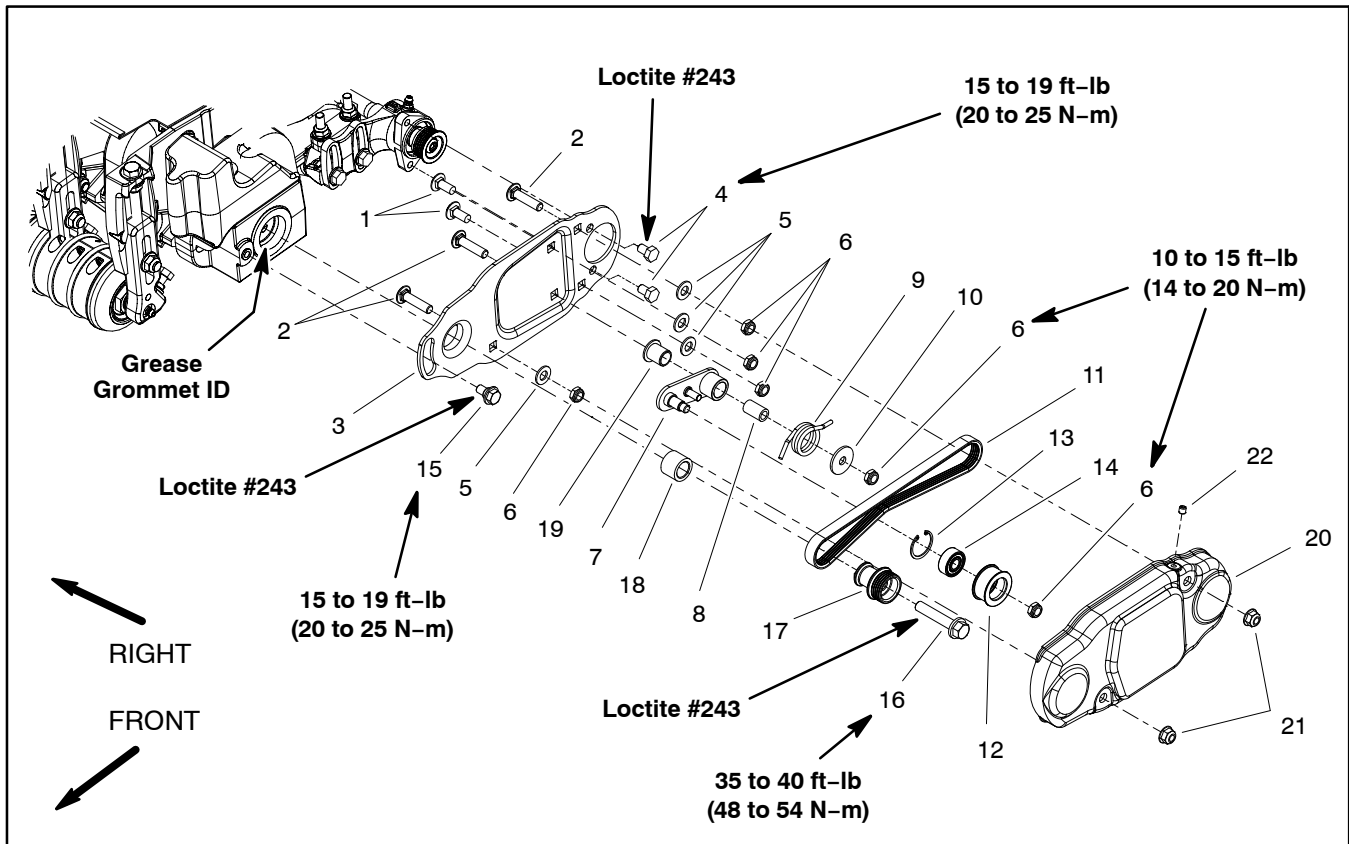

Figure 67
Drive System Disassembly (Fig. 67)
2. Remove cover (item 20) to access rear roller brush drive components.
3. Remove roller brush drive components as necessary using Figure 67 as a guide.
Drive System Assembly (Fig. 67)
C. Position housing to cutting unit side plate and secure to cutting unit with two (2) socket head screws.
2. Assemble roller brush components using Figure 67 as a guide.
A. During assembly, apply Loctite #243 (or equivalent) to threads of fasteners and torque fasteners as shown in Figure 67.
C. Brush plate should be installed so that idler pulley assembly is toward the bottom of the plate. Also, the shoulder bolt (item 15) should not clamp the brush plate to the drive housing during assembly.
D. When installing drive pulley (item 17), make sure that tabs on pulley engage slot in drive shaft.
E. Idler arm (item 7) should be free to rotate after assembly to brush plate. Make sure that idler spring is installed so that it can rotate the idler arm and pulley and apply tension to the drive belt.